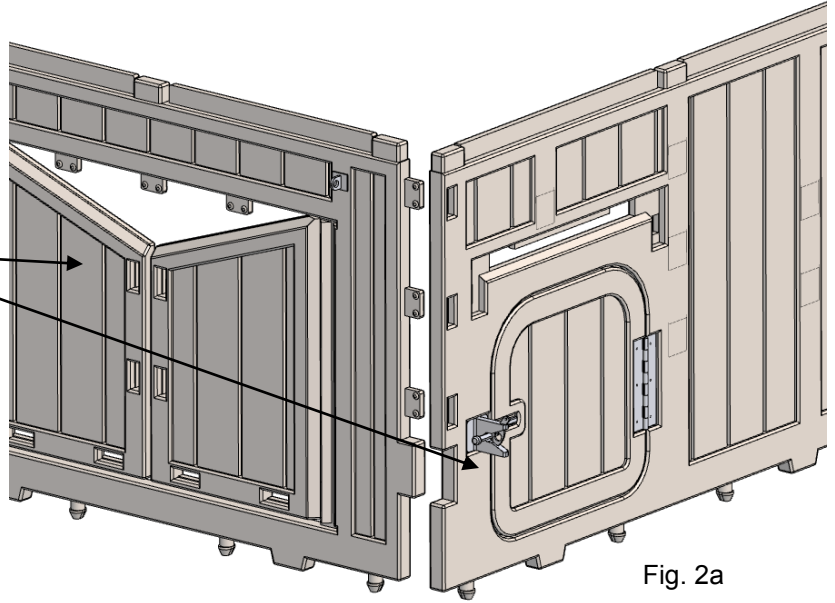

Fig. 2a
Step 2: Assemble the Front Wall to a Nest Side Wall by aligning, and then inserting the tabs on the Nest Side Wall into the slots of the Front Wall. (Fig.2a)